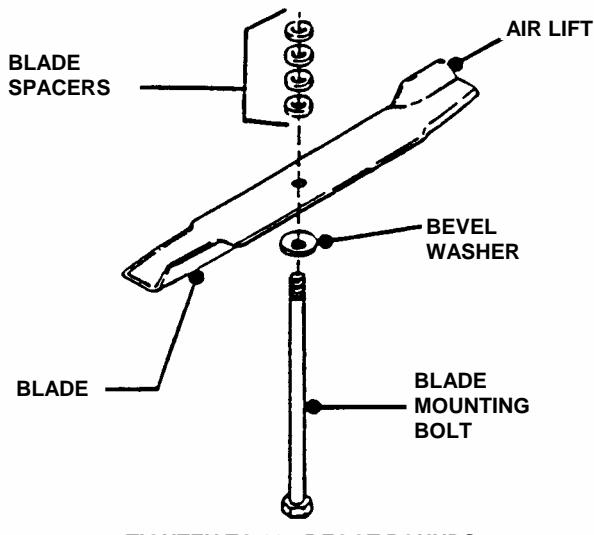

FIGURE 7.6
10. Install the Blade Mounting Nut on each Blade Mounting Bolt. See Figure 7.6.
13. Reinstall blade bolt, washer, blade and four spacers. See Figure 7.6.